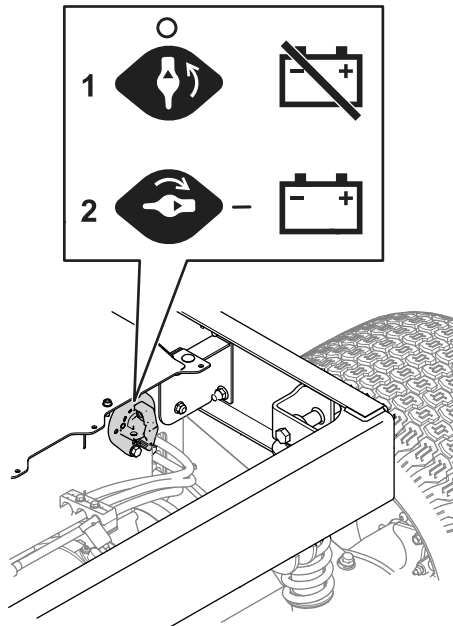

Figure 36
3. Move the battery-disconnect switch to the desired position as shown in Figure 36.